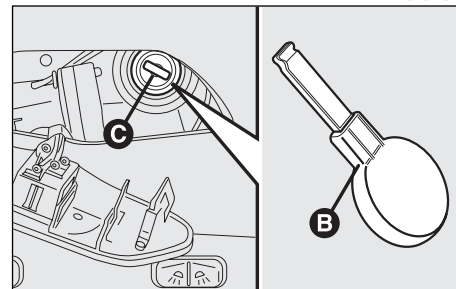

fig. 142
- using the special key (**B-fig. 142**) provided in the glovebox, press and rotate the sunroof control bushing (**C-fig. 142**) clockwise to open and counterclockwise to close.